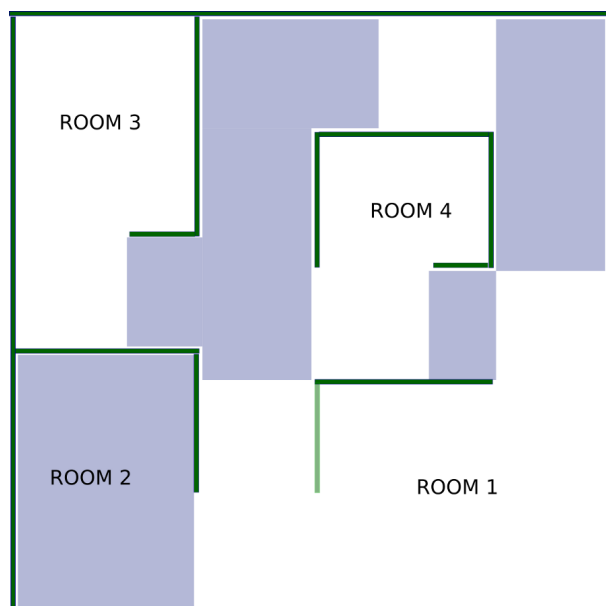

Figure 4.6: Allowed Rug Locations (FF Rug Locations.png)
- Rugs will be placed in some or all of the rooms and hallways. There will be no shag rugs, but robots must navigate across 1 cm thick rug edges. The shaded areas in Figure 4.6 mark the allowed rug locations: not all rugs will be present and the locations and colors will be different in each arena.